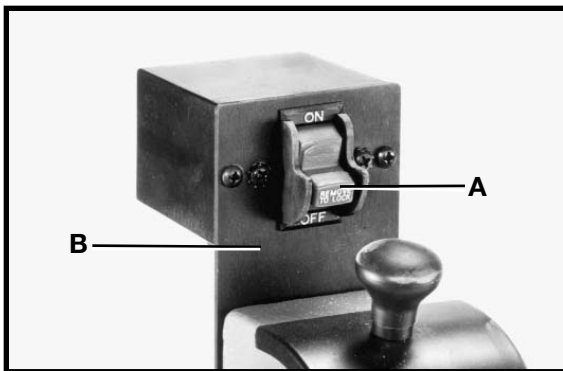

Fig. 17
The on/off switch (A) Fig. 17 is located on the bracket (B) attached earlier to the rear of the headstock. To turn the switch “ON”, move the switch (A) up to the “ON” position. To turn the switch “OFF”, move the toggle switch (A) down to the “OFF” position.